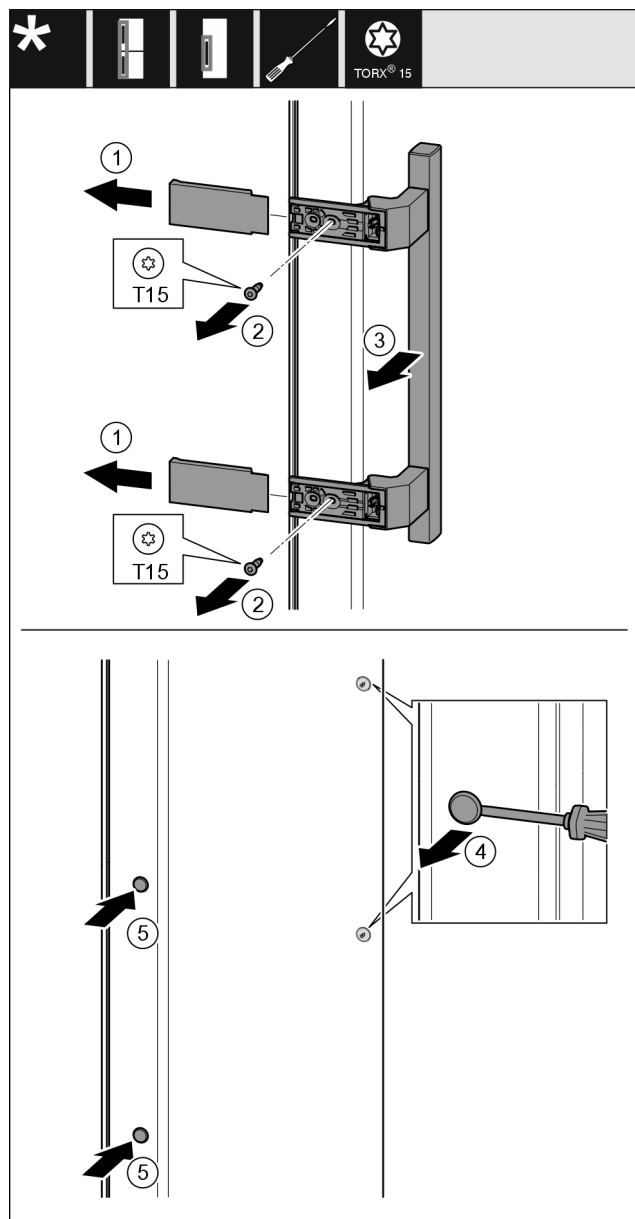

Fig. 25
- Remove the cover Fig. 25 (1).
- Unscrew screws Fig. 25 (2) with screwdriver.
- Remove the handle Fig. 25 (3).
- Use a slotted screwdriver to lift the side plug Fig. 25 (4) carefully and pull it out.
- Re-insert the plug Fig. 25 (5) on the other side.